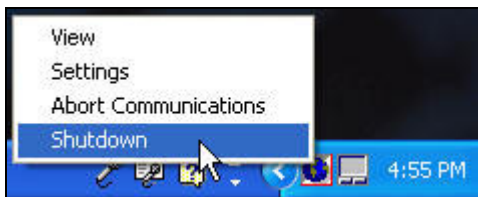

Figure 31.2.4
- Select **Shutdown** from the list (Figure 31.2.4).